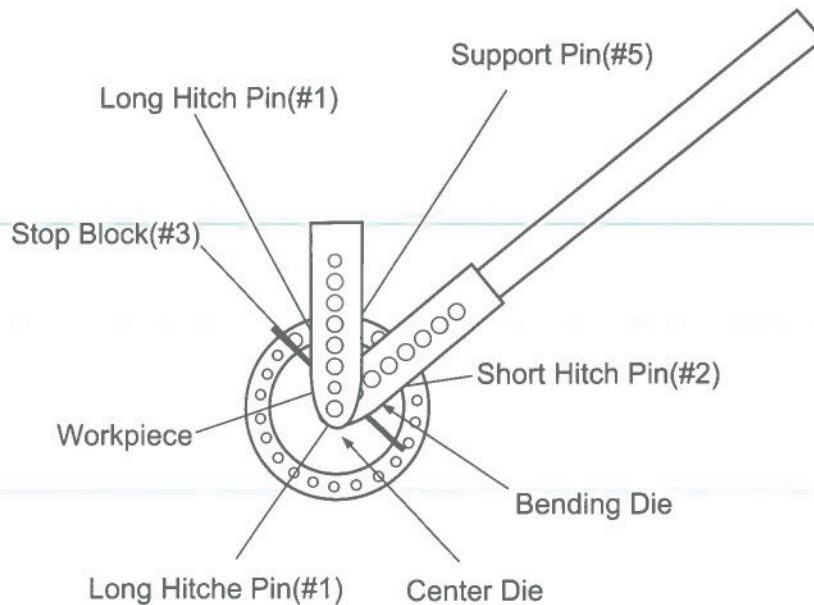

Figure3 – Using Stop Block
Step 1: The Stop Block (#3) holds the workpiece in place while the selected bending DIE (#17-#23) on the HANDLE (#9) bends it around the LONG HITCH PIN (#1) or selected center DIE as shown in Figure 3. The workpiece will bend in the shape of the bending DIE around the LONG HITCH PIN (or center DIE). See Figure 3.